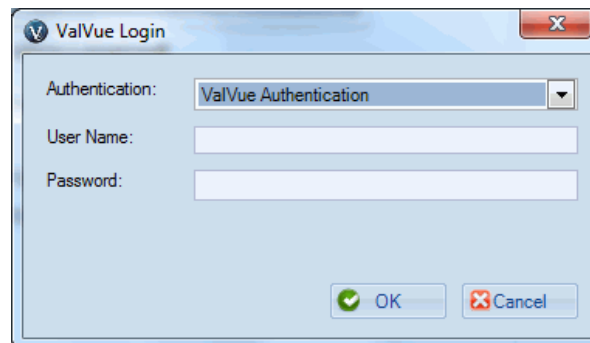

Figure 14 ValVue Login
1. Select **Start > All Programs > Masoneilan > ValVue3 > ValVue** and Figure 14 appears.